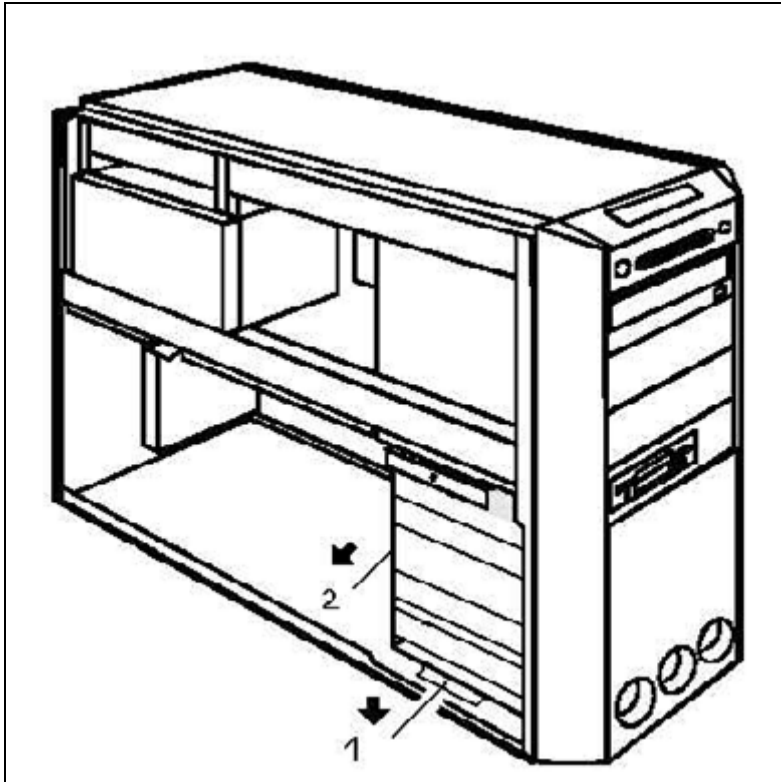

Fig. 48: Replacing a PCI board_2
6. Press the locking bar (1/Fig. 48 / p. 80) downward and pull the hard drive casing (2/Fig. 48 / p. 80) out of the PC.